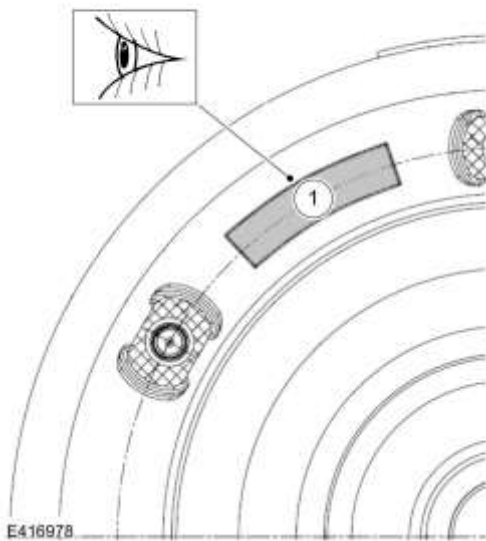

Figure 1
7. Remove the transmission and verify the torque converter part number Prefix and Suffix. Ensure the torque converter part number is JB3P-(7902)-JD or later. If the part number is JB3P-(7902)-JC or earlier, then replace the part with a new torque converter (JD or later). (Figure 1)